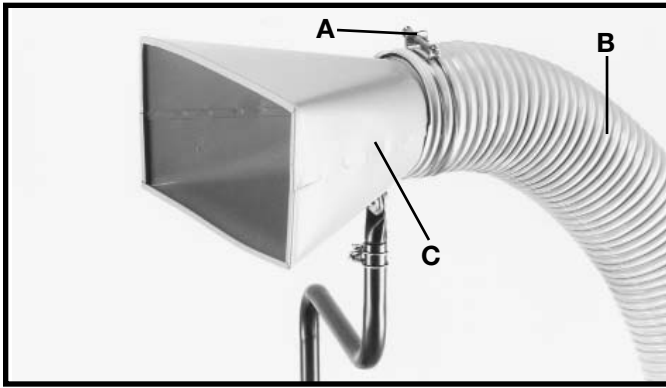
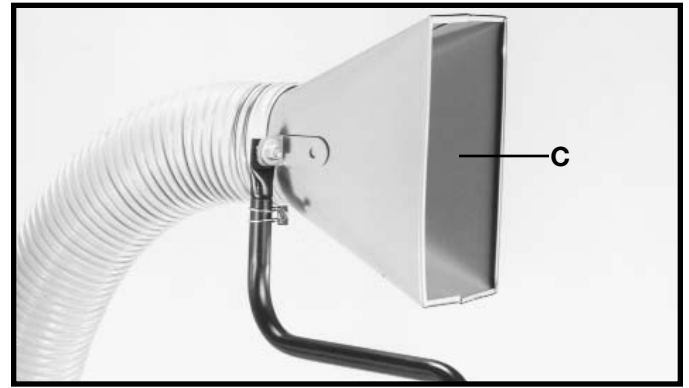

Fig. 17
Fig. 18
3. Place the remaining hose clamp (A) Fig. 17, around the other end of vacuum hose (B) and slide hose (B) onto intake funnel (C) and tighten hose clamp (A). **NOTE:** If desired, intake funnel (C) can be rotated to the vertical position, as shown in Fig. 18.